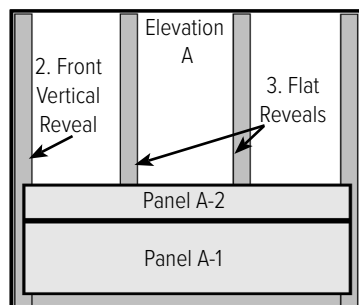

Figure 2.4.6
2.4.5 Set the bottom edge of the reveal on top of the hand rail spacer and level the reveal before pressing it against the wall as shown in Figure 2.4.6.